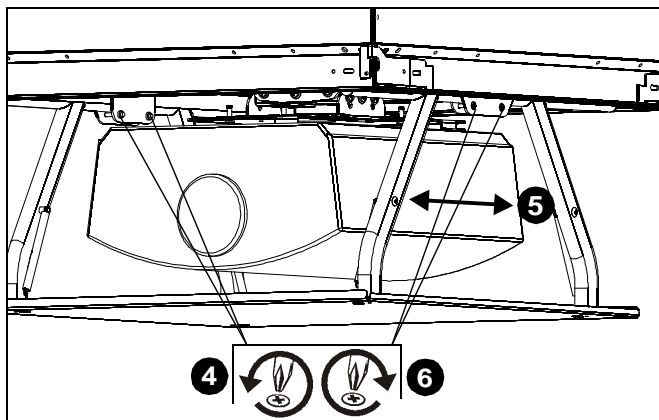

Figure 23
4. Adjust projector forward or backward by loosening two screws on each side of SL220. (See Figure 23)
6. Tighten two screws on each side of SL220. (See Figure 23)